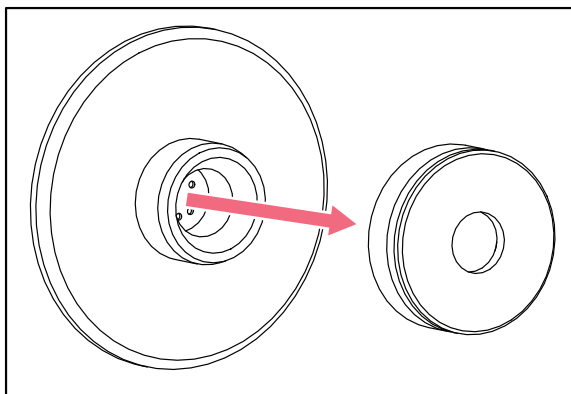

Fig. 1-1: White Hydrophobic Filter
4. Remove the white hydrophobic filter (if installed) from the O₂ sensor, (see Fig. 1-1 on p. 14).